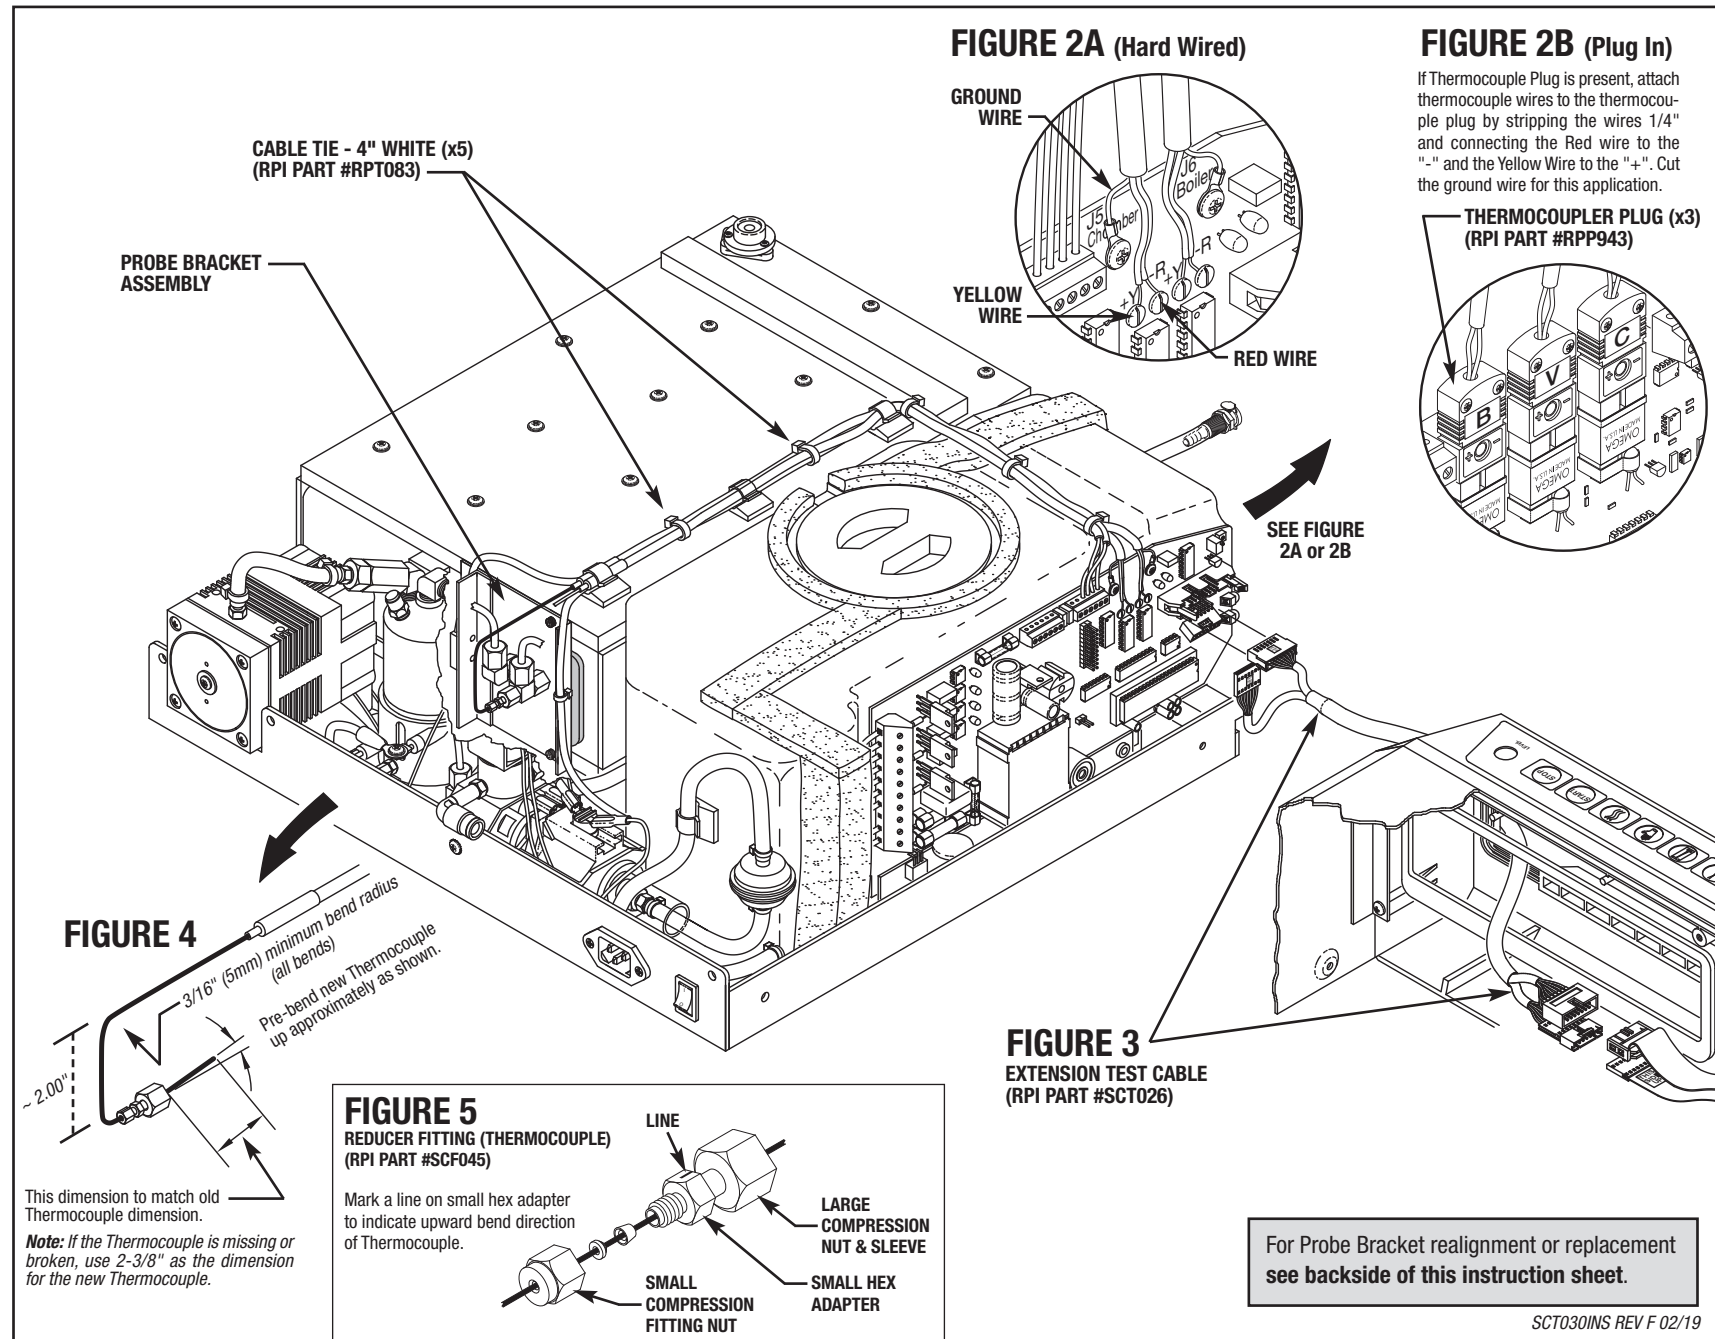

FIGURE 2A (Hard Wired)
3. Disconnect the Thermocouple wires at the main PCB, or disconnect the Thermocouple Plug if present (**see Figures 2A & 2B**) and cut all securing cable ties. At the rear of the probe bracket, locate the old thermocouple fitting and loosen the large inner compression nut, then slide out the old Thermocouple with the small compression fitting assembly (**see Figure 5**).
12. Run the wiring back and connect to the main PCB, or attach the wires to the Thermocouple Plug if present. Secure using the Cable Ties (RPI Part #RPT083) provided in this package. **See Figures 2A & 2B.**